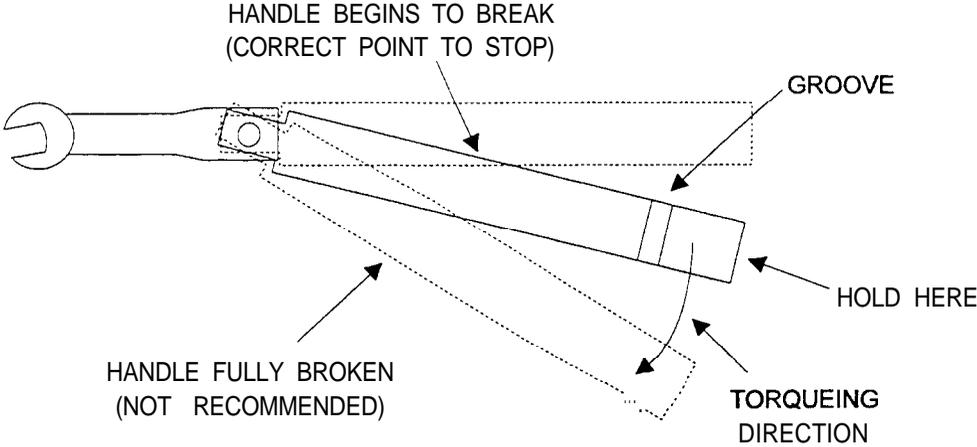

Figure 4-6. Using the Torque Wrench
3. Tighten the connection until the handle begins to break loose. It is not necessary to fully break the handle of the torque wrench to reach the specified torque (Figure 4-6).